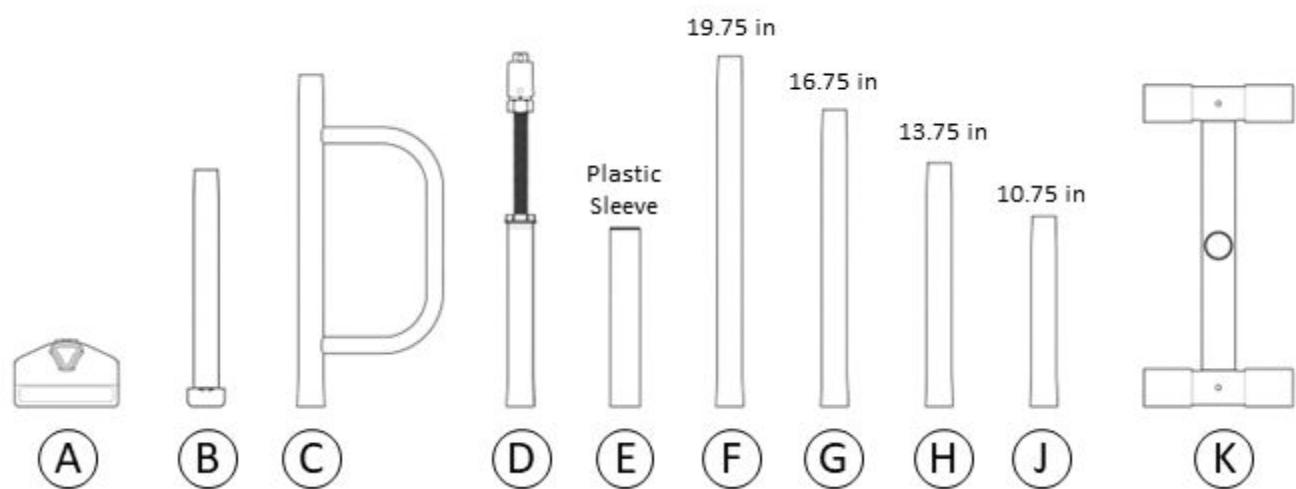

FIGURE 1
1. Remove product from box/package and identify all parts as shown in *FIGURE 1*.